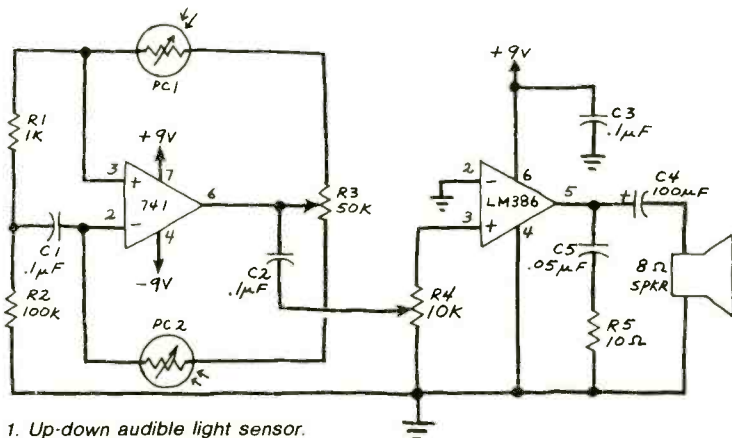

Fig. 1. Up-down audible light sensor.
**I**F YOU like circuits which respond to light, you'll love the light-sensitive tone generator shown in Fig. 1. Most light-sensitive tone generators have a single light-sensitive component. The circuit in Fig. 1 has two. This provides an unusual up-down audible tone.